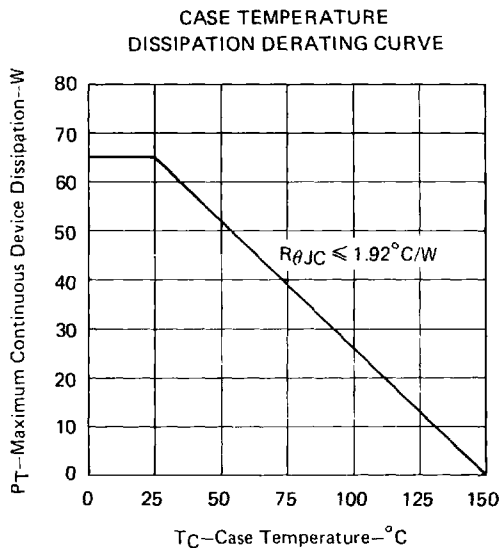

FIGURE 9
3. Derate linearly to 150°C case temperature at the rate of $0.52 \text{ W}/^\circ\text{C}$ or refer to Dissipation Derating Curve, Figure 9.